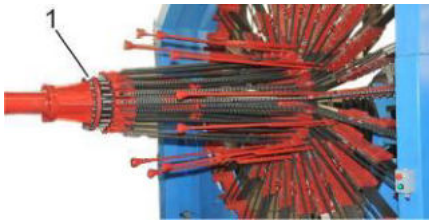

Fig. 81: Electrode support wheel chains
2. Check chains (Fig. 81) by visually inspection for sagging and/or damage.
4. Loosen the lock nut of the clamping spindles (Fig. 81/1).